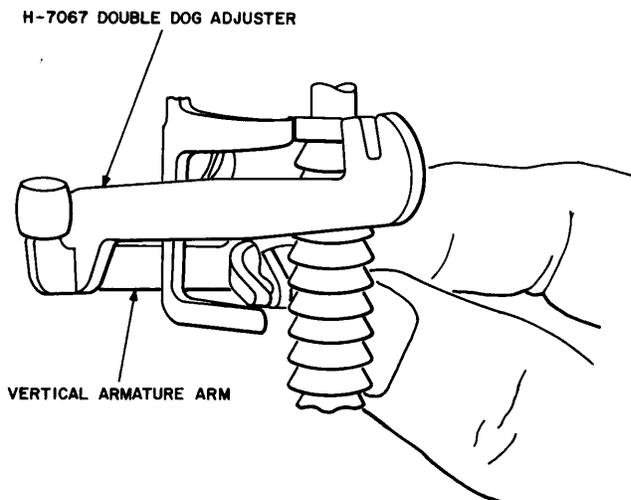

Fig. 17—Method of Bending Vertical Armature Assembly Equipped With Arm
(1) To replace the vertical armature assembly, lift the release armature from the lugs on the release magnet bracket and rotate the release armature so that it is at right angles to its normal position. In some cases it may be necessary to remove the release contact spring assembly to permit the armature to be lifted from the lugs on the bracket. If this is necessary, loosen the screw which mounts the release magnet bracket to the frame with the 563A and 564A offset screwdrivers. Remove the release contact spring assembly from the frame by drawing the assembly toward the front or rear of the switch, as required, to free the contact springs from the stud on the release armature. Take care not to break the leads on the spring assembly when the spring assembly is supported by them. Remove the vertical armature bearing pin clamp and vertical armature bearing pin as described in subparagraph 3.06(1).
(2) When the bearing pin is removed, remove the vertical armature from the right side of the switch by tilting it downward so the rear end of the armature drops below the lug on the frame which supports the bearing pin clamp. Turn the armature slightly to permit its removal. When the switch is equipped with an armature arm, the removal of the armature will be facilitated if the arm is bent in a direction away from the frame. To bend the arm, use the AECo H-7067 adjuster applied at the stud end of the arm while holding the armature with the fingers. (See Fig. 17.) Also in this case, replace the vertical interrupter spring assembly as described in Section 030-705-803 and the release magnet bracket as described in paragraph 3.26.
(3) Remove the protective lubricant from the bearings in the new armature with KS-7860 petroleum spirits. Place the vertical armature in position by reversing the above procedure, being sure that the pin in the frame engages the slot in the rear end of the vertical armature and that the pawl finger is over the lower lug of the stationary dog. Replace the vertical armature bearing pin from the left-hand side of the switch as described in subparagraph 3.06(2). Restore the release armature to position. Swing the vertical armature retractile spring into position so that it will engage the "T" head of the vertical armature spring adjusting screw. Remount the